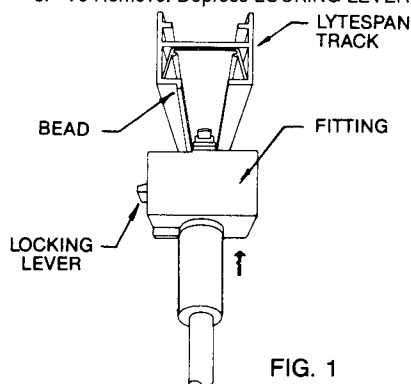

FIG. 1
1. Grasp FITTING at top of EXTENSION WAND and insert it into the LYTESPAN TRACK. The LOCKING LEVER must be on the same side of the track as the BEAD. (See Fig. 1.)